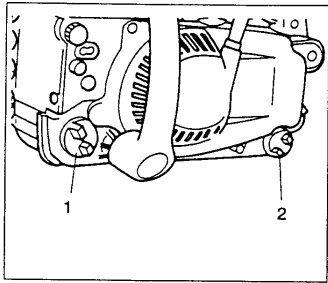

Fig. 2-1B
When pouring fuel (1) or chain oil (2) into the tank, place the unit with cap side up. (Fig. 2-1B)